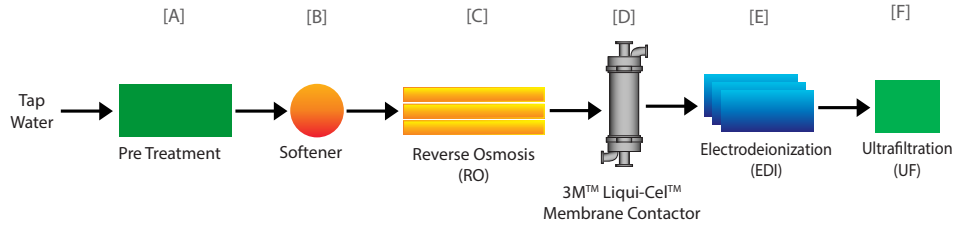

Figure 2: Process steps of WFI production including EDI
of the basic operation steps is explained for a membrane-based WFI system. Figure 2 shows a basic flow chart of a WFI generation system starting with tap water going to PW and ending up with WFI. The choice of technologies used in the first pretreatment step [A] depends on the source water quality and should ensure that subsequent membrane processes receive good quality feed water to reduce the risk of blocking or fouling the membrane. Pretreatment steps could include ultraviolet (UV) irradiation to inactivate microorganisms and filtration to remove particles.
After EDI Ultrafiltration (UF) [F] as final polishing a membrane filter is needed to further reduce CFU and endotoxins as a sterilization step to defined WFI quality limits. Picture 1-A and 1-B show front and back views of a WFI generation system following the design in Figure 2, courtesy